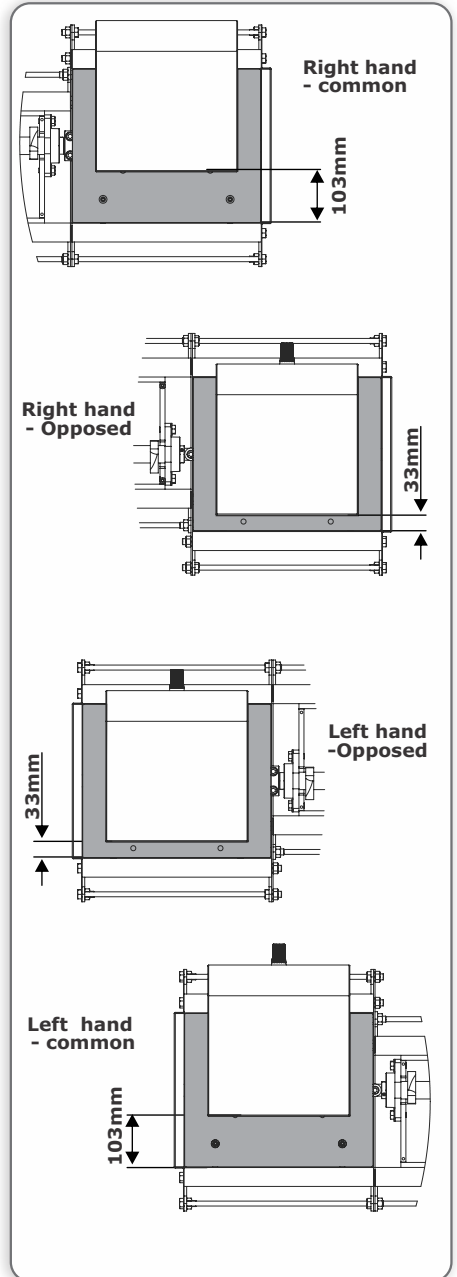

FIGURE 38b. SECTOR MOUNTING POSITION
3. Be sure to mount the barrier either 103mm or 33mm from the edge of the main frame, depending on the installation configuration. See Figure 38b for clarity.